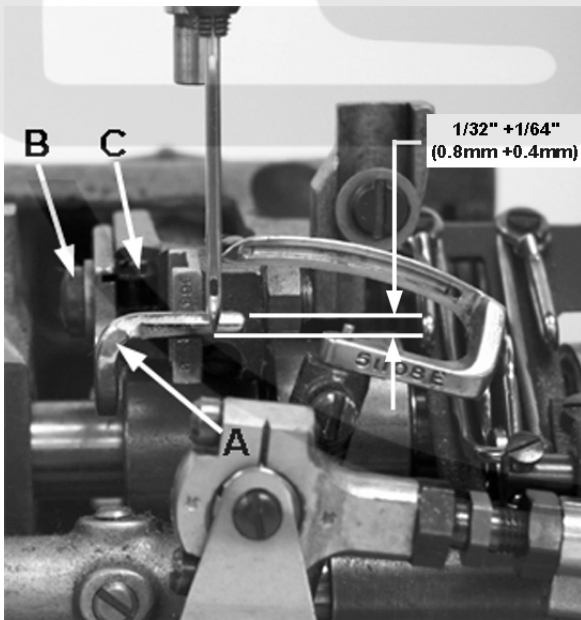

Fig 13
Rotate handwheel in operating direction to position looper point to just enter the scarf of needle. At this time the needle guard (A, Fig 13) should be at its extreme end of forward travel. Set the guard front to back as close as possible without touching the needle. Guard should be set as low as possible, yet have its vertical face approach above the needle point $1/32'' + 1/64''$ (0.8mm + 0.4mm). To move the needle guard forward or backward, loosen the screw (B), move needle guard as required, and retighten screw. To raise or lower needle guard, loosen screw (B), and turn screw (C) clockwise to lower needle guard or counterclockwise to raise it. Retighten screw (B) after guard is properly set.